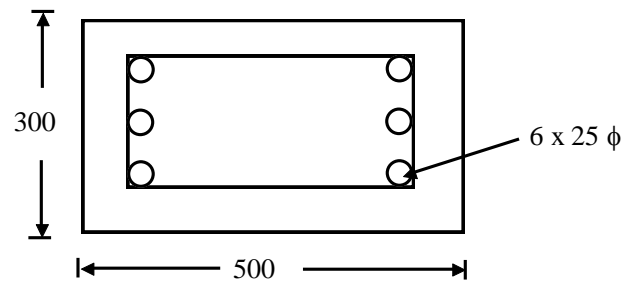

Figure 1
4. A RC column 300 x 500 mm is reinforced with 6 Nos. 25mm dia. Fe 415 type steel and grade of concrete is M25 as shown in figure1. Determine the design strength parameters in terms of its Axial force and Bending Moment corresponding to a neutral axis location given by x_u/D as 1.2. Consider loading eccentricity is with respect to its major axis. Assume 40mm clear cover to the longitudinal reinforcement. Take the coefficients for Area of stress block and Distance of CG from highly compressed edge as 0.399 and 0.458. 13